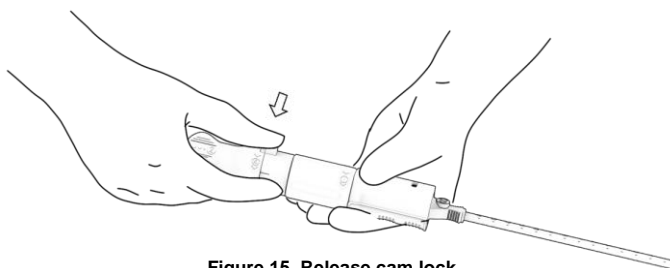

Figure 15. Release cam lock.
- a. Locate the cam lock (marked '4') and fully depress this green button. Figure 15. Ensure it is fully depressed before proceeding to step 5.